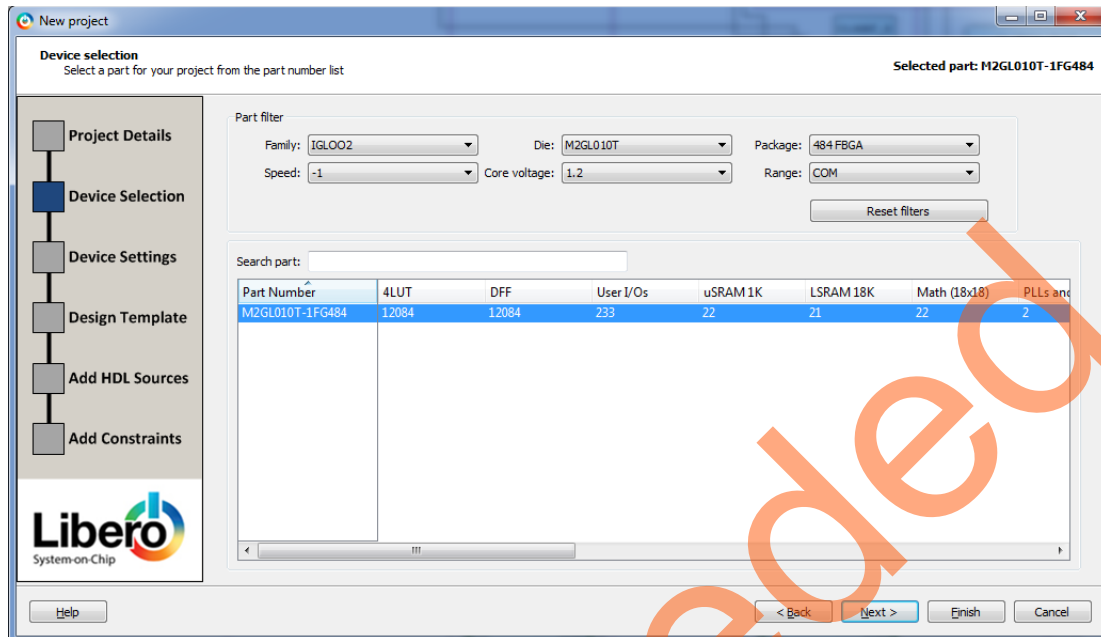

Figure 17 • New Project Window - Device Selection
4. In the **Device Selection** window, enter the following details, as shown in Figure 17 on page 21:
- Core Voltage (V): 1.2